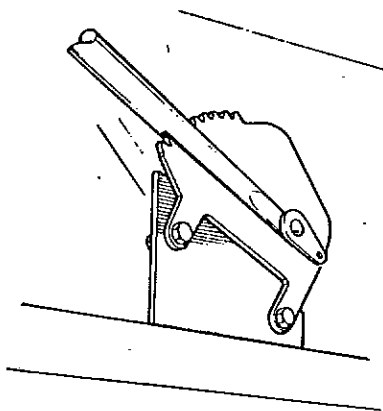

Fig. 46. Handbrake Greasing
4. Apply a small amount of grease to the hand-brake lever ratchet (fig. 46).